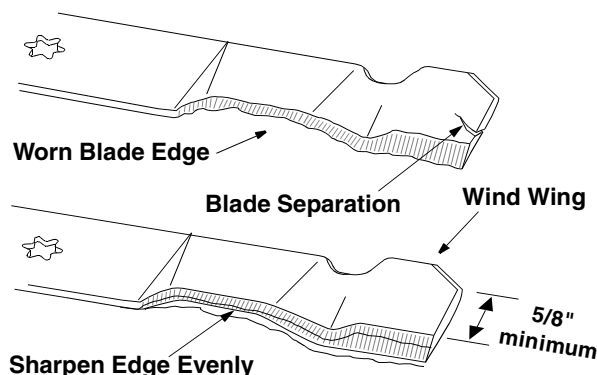

Figure 22
To properly sharpen the cutting blades, remove equal amounts of metal from both ends of the blades along the cutting edges. See Figure 22.
Sharpen the cutting edge straight across, parallel to the trailing edge, at a 25° to 30° angle. See Figure 22.
**IMPORTANT:** If the cutting edge of the blade has already been sharpened to within 5/8" of the wind wing radius, or if any metal separation is present, replace the blades with new ones. See Figure 22.